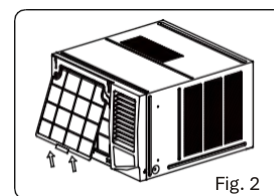

Fig. 2
Grasp the tab at the end of the filter, lift it, then pull it towards you and pull the filter outwards (see Fig. 2).
1. Insert the air filter into the slot of the frame from top to bottom. (See Fig. 2)